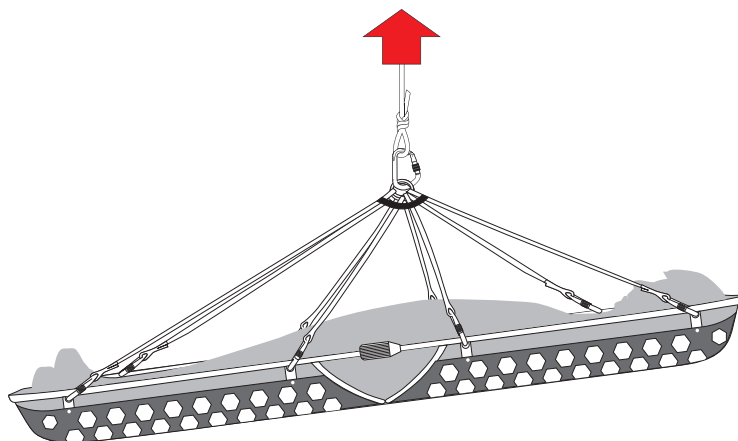

Fig.12
- **Lifting and lowering with rescue devices (fig. 12)**
- **Hoisting and lowering with helicopters (fig. 12)**